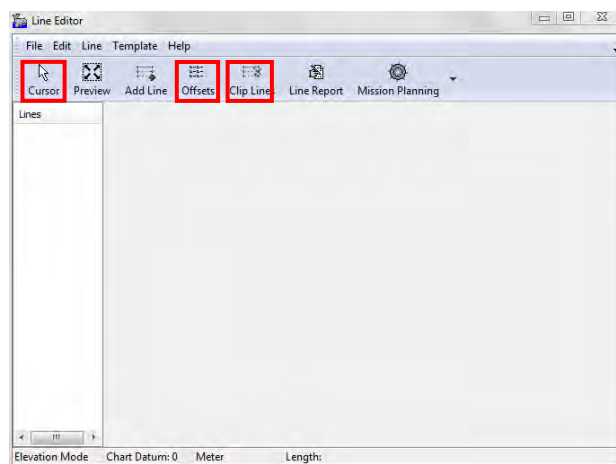
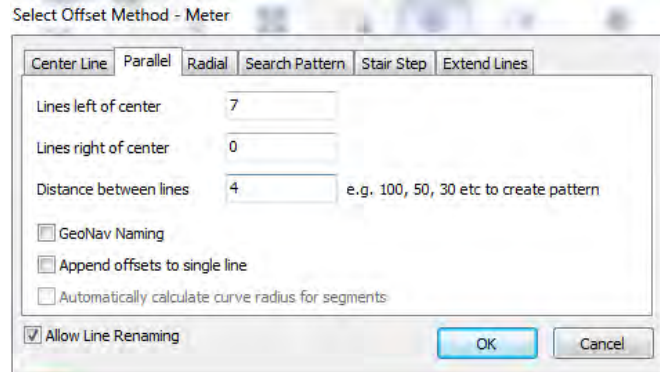

Figure 42: Line Editor window; Cursor and Offsets buttons
Figure 44: Offsets windows
- Click the "Cursor" button (Figure 42)
(Figure 42) -> add the number of lines that you wish and the spacing between them (in meters) (Figure 44). **Note:** to clip the parallel lines inside the contour, use the "Clip Lines" button (Figure 42) and then select the "Border file" you created.